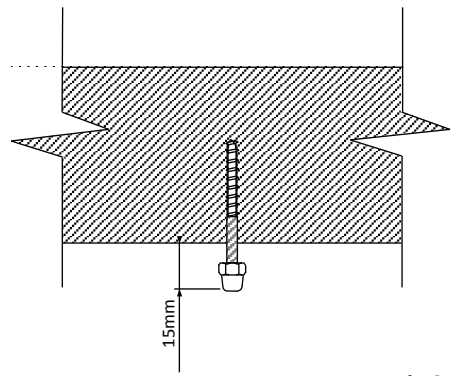

Fig 6
3. Screw bolt into 4 holes leaving 15mm from bulkhead to end of bolt and cap (Fig 6).